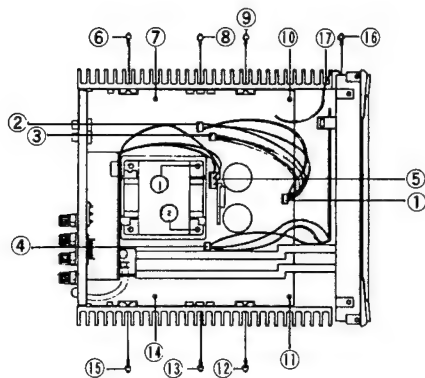

Fig. 5
2. Remove connectors ① to ⑤ in Fig. 5, and then remove screws ⑥ to ⑬
3. Remove screw ⑭ in Fig. 5, and then untie the ground wire ⑰
4. Remove the pcb-18 Fig. 5